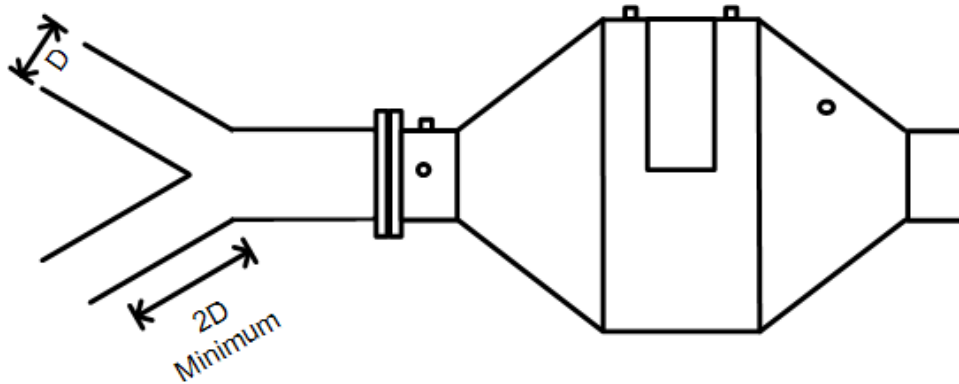

Figure 2-6. StableSense HEGO Dual Bank Exhaust Mounting Recommendations
- When mounting dual-bank sensors, Pre-Cat HEGO mounts on a stereo engine should not be closer than 2 pipe diameters from the Y to reduce cross bank signal interference. See Figure 2-6.